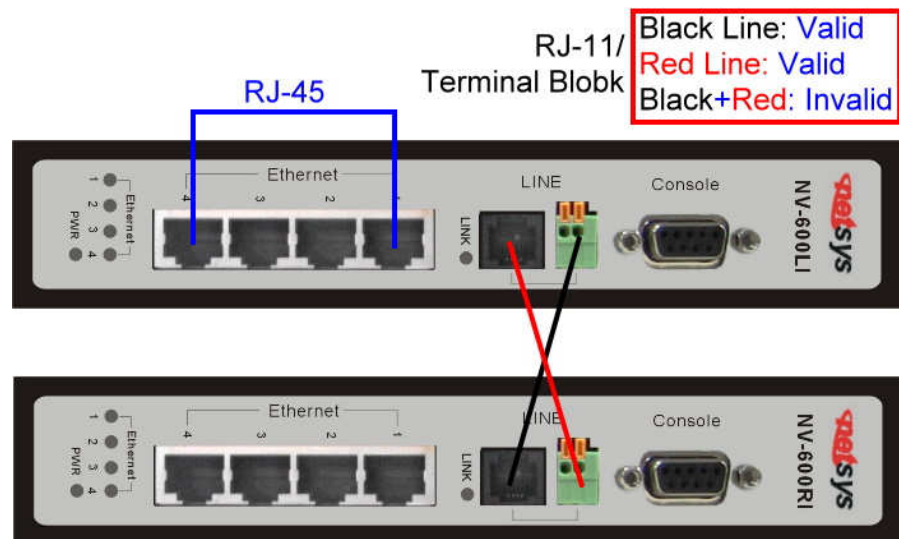

Figure 2.5 NV-600LI/RI line ports crossover connection
- ◆ The line port has 2 connectors: RJ-11 and terminal block. It is used to connect from NV-600LI(CO) using single pair phone cable to NV-600RI(CPE) bridge side (point to point solution). Take note that NV-600 line port cannot be used at the same time. Either RJ-11 port is connected or terminal block is connected using straight connection (Figure 2.4) or cross-over connection (Figure 2.5)